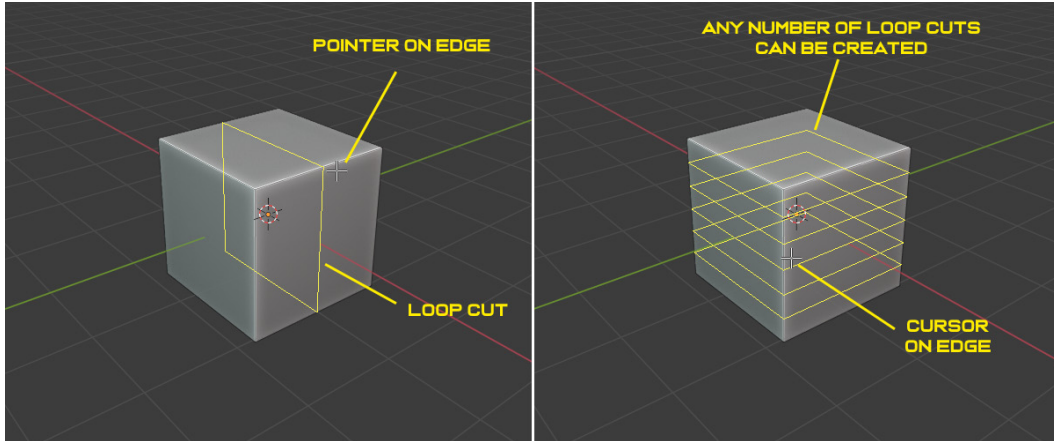

Figure 2.9 – Loop cutting
**Loop cutting** is used for creating a new **edge loop**. It creates a set of new polygons that we can use for modeling. The shortcut for activating the **Loop Cut** tool is *Ctrl + R*. With the tool activated, hover the cursor over an edge where you want to create the loop cut. You can control the number of loop cuts by scrolling the mouse wheel up or down. *Figure 2.9* is an example of loop cutting a default cube: